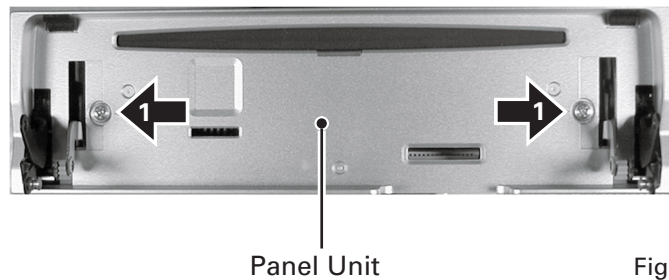

Fig.5
**1** Remove the two screws and then remove the Panel Unit. (Fig.5)
One is to remove the Gear Unit (Fig.6), then Tuner Amp Unit, and the other is to remove the Panel (Fig.5), then Tuner Amp Unit.